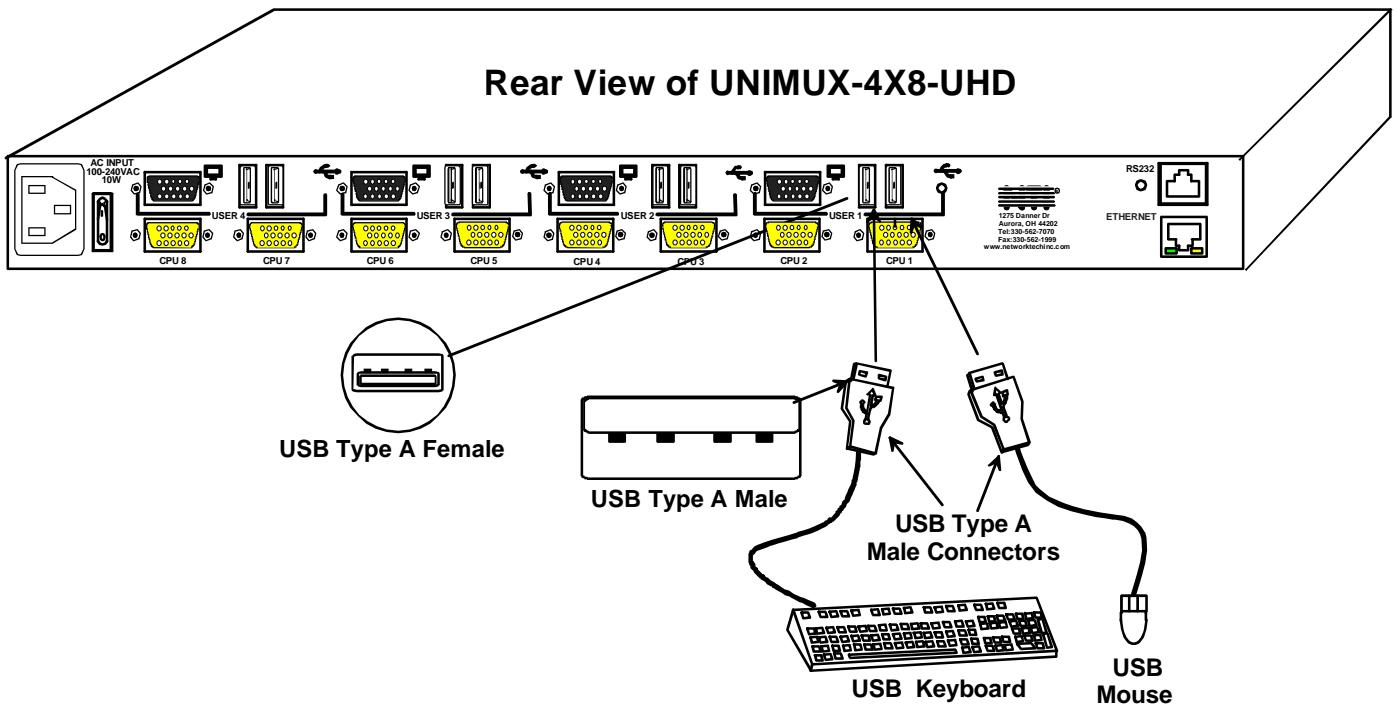
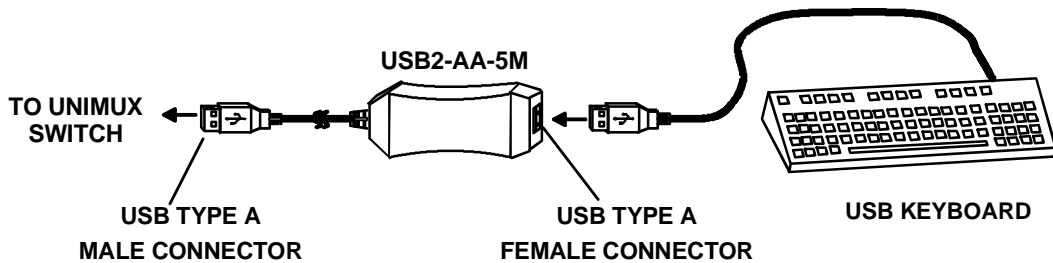

Figure 4- Install user devices (mouse and keyboard)
Figure 5- Use USB2-AA-5M to extend a device, or a computer
- Connect the user devices to the USB type A female ports labeled with the USB symbol (  ) on the rear of the UNIMUX switch (see Figure 4 ). Ensure that the monitors and related user devices are connected to ports from the same device port group.
**Note:** If there are three (3) USB type A female ports present (models with touch screen support only), then the third USB port is available for connection of a USB cable from a touch screen type monitor. The USB ports are not device specific, so the mouse, keyboard, and USB cable from a touch screen type monitor (or other supported device) can be connected to any of the available USB ports present.
**Note:** If device cables are not long enough to reach the UNIMUX switch, they can be extended either 5 or 10 meters using either 1 or 2 NTI USB2-AA-5M Active USB 5 Meter Extensions (see Figure 5)- purchased separately. Using USB-C5-LC you can extend device cables up to 150 feet. Contact your NTI salesperson for more details by calling (800) 742-8324 (800-RGB-TECH) or (330) 562-7070 or visit our website at <http://www.networktechinc.com>.